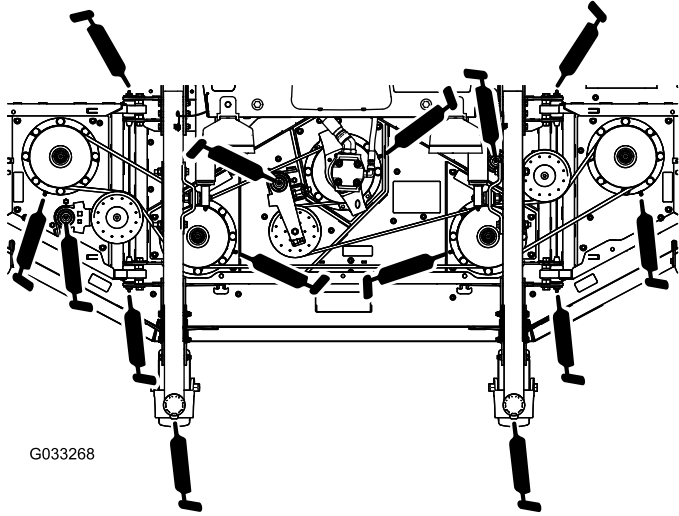

Figure 80
- 2 caster-fork-shaft bushings (Figure 80)
- 5 spindle-shaft bearings (located on the spindle housing) as shown in Figure 80
- 3 idler-arm-pivot bushings (located on the idler-pivot shaft) as shown in Figure 80
- 4 winglet-deck bushings (located on the winglet-pivot pins) as shown in Figure 80